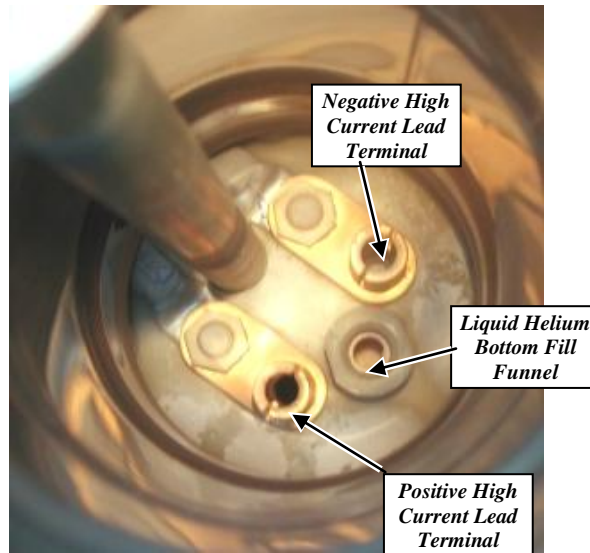

Figure 8-5 - Check lead terminals and liquid helium fill funnel for ice.
4. Insert the alignment rod and lead guide assembly into the magnet so that alignment rod is in the liquid helium bottom fill funnel. The liquid helium bottom fill funnel is located between the two high-current lead terminals (see Figure 8-5). It may take several tries to accomplish this. You will be able to tell that the alignment rod is in the liquid helium fill funnel from the resistance when the alignment rod is twisted slightly.